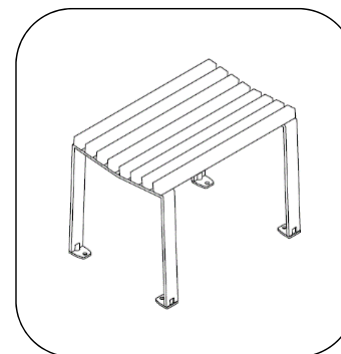

Fig. 1 – Surface mount tab orientation
1. Tighten surface mount tabs, if necessary, using 6mm hex key. Verify orientation of tabs is correct, see Fig. 1.